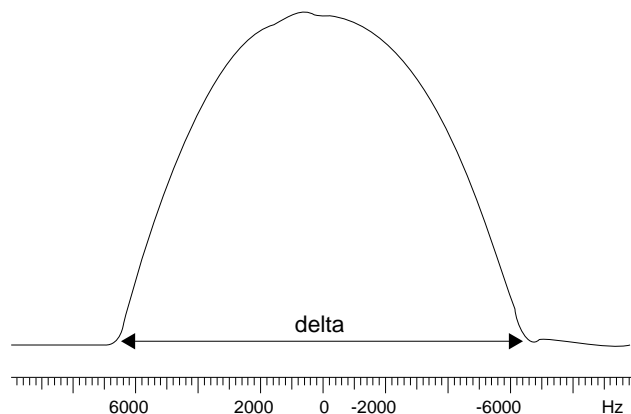

Figure 4. Transverse-Gradient Profile Measurement Using 1% Doped H₂O
You should see an elliptical profile, about 10 kHz wide, as shown in **Figure 4**.
8. Set `gradaxis='y'` `gzlv11=8000`. Enter `ga` to acquire a spectrum. Repeat steps 4 to 7. Again, note all maximum gradient strength values for future reference. The profile for the Y gradient also looks like that shown in Figure 4.